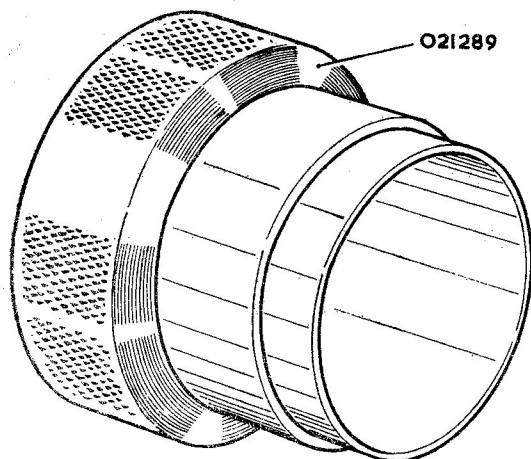

Fig. 7. Impeller/suction cover clearance gauge
34. Use special tool 021289 (fig. 7) to gauge clearance between impeller (9) and slipping. Fit the suction baffle (4) with five screws (2) and lockwashers (3). The suction cover (1) is then fitted and held in place by three clips (19), screws (17) and lockwashers (18).
36. Lift clamp (72) and place suppressors (73) in position. Fasten by securing to seat (77) under bracket (74) with two screws (70) and spring lockwashers (71). Assemble each of the three resistances by inserting bolt (58) through top disc (62), sleeve (63), resistances (64), bottom disc (62) and locknut (68). Each resistance is made up of a small washer (60), washer (61), disc, on each end of a sleeve and resistance, all of which are held together by bolt (59) and locknut (68). Ensure that screws (67) are tight before placing assembled resistances in position.
37. Loosen nut (68) to allow bolt head to slip over top bracket (74) and nut to fit under bottom bracket (65). When resistances have been placed in correct position, tighten locknut (68).